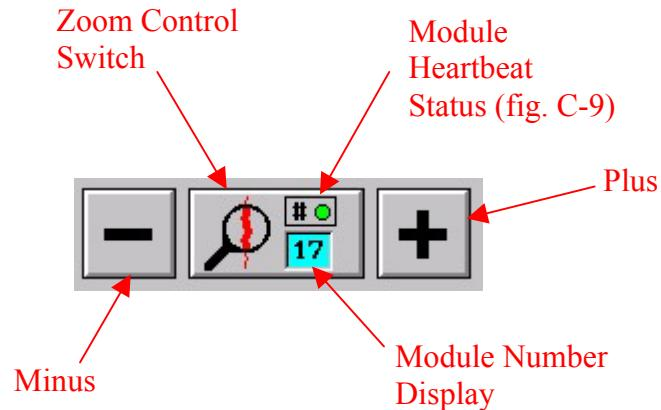

Fig. C-8
**Network Module Icon**-This module was randomly selected to use as an example and happens to be the last module in the network. The cyan color indicates the module has been selected. The "17" will match the Module Number Display in fig. C-8. This number will change depending on which module is selected. Pressing the Network Module Icon will bring up the Input or Output Diagnostics Detail View. To display detailed information for any module, touch the desired Network Module Icon. Go to the Zoom Control Switch (Fig.C-8). Press the minus button to move to the previous module. Press the plus button to move to the next nodule. Press the zoom button to switch between the four views (See Figures C-3 - C-6)